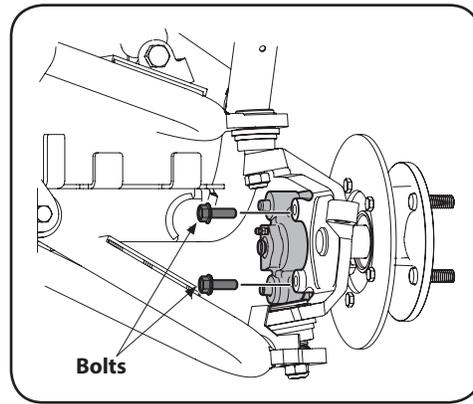

Figure 6-13
- Remove mounting bolts securing caliper and brake pads to steering knuckle. See Figure 6-13.